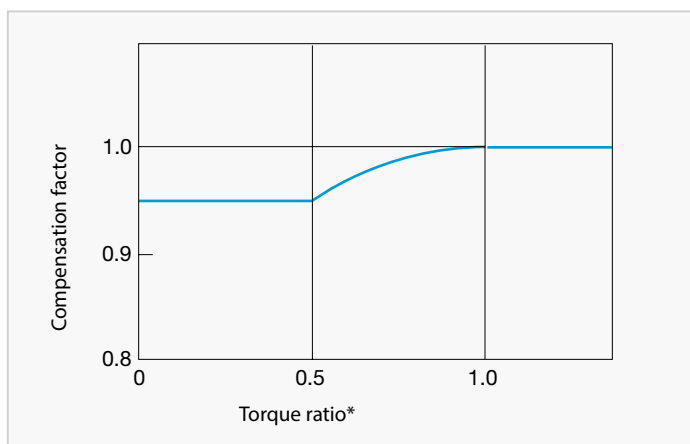

Fig. UA-3 Compensation curve for efficiency
1. The efficiency changes if the load torque does not match the nominal torque. Check the compensation factor in the diagram Fig. UA-3.
2. When the torque ratio is over 1.0, the compensation factor for efficiency is 1.0 (diagram Fig. UA-3).